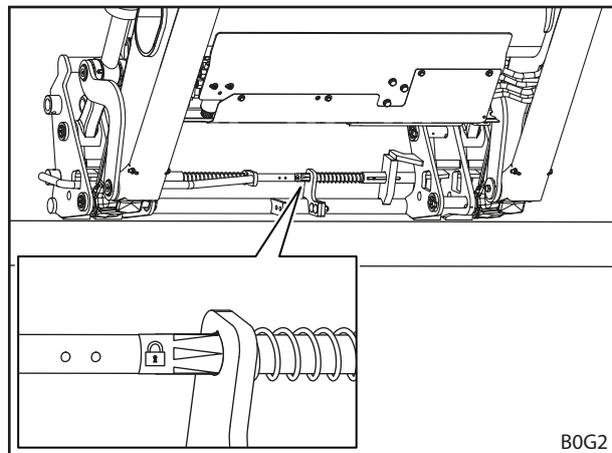

Fig. 82 Using the sticker to check the implement locking mechanism (Euro-FR Combi change frame)
- (1) Actuating the *scooping* function. To do this, the front loader may not be lifted to a height of more than 1.5 m.
**i** For the Euro-FR Combi change frame, the sticker is on the middle mounting plate (see Fig. 82).